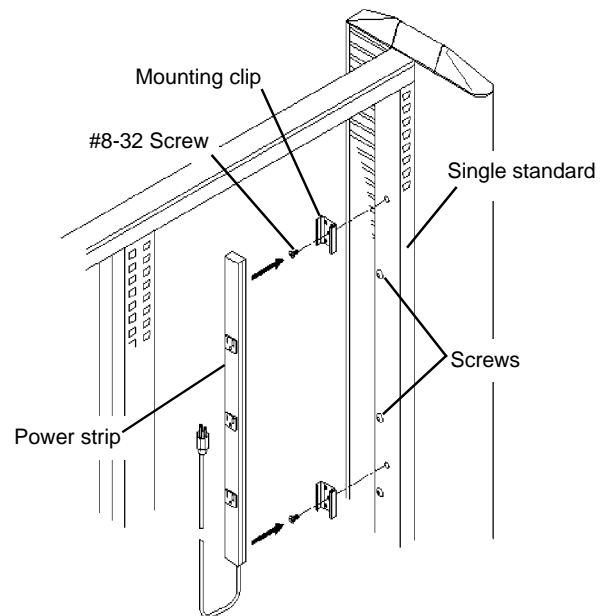

Figure 6
4. The Mounting Clips attach to the **Single Standard** in same manner as as the Double Standard. But since there is no feature on the Single Standard that denotes its center, care must be taken to ensure that the Mounting Clips are centered on the Single Standard and that they do not interfere with the Upright or Side Frame screws. See **Figure 6**.